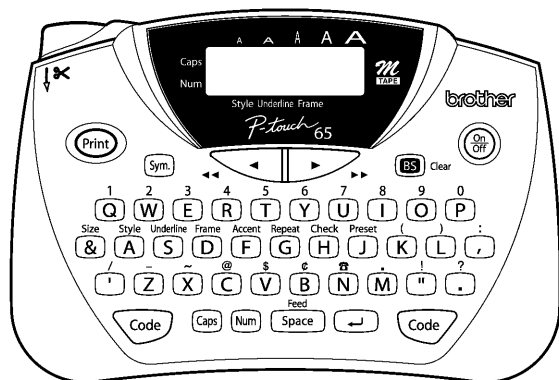

Figure 1.1-2 Key Arrangement
| (4) | Key arrangement | See Figure 1.1-2. |
(See Figure 1.1-2.) |
| (3) | Number of indicators | 11 (See Figure 1.1-2.) |